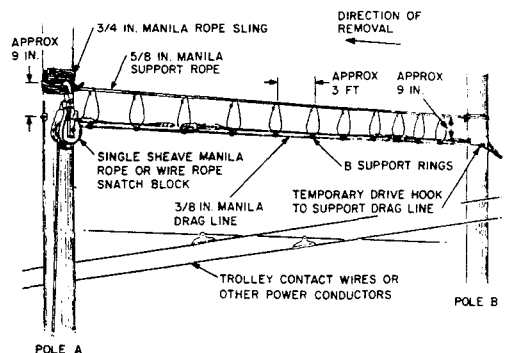
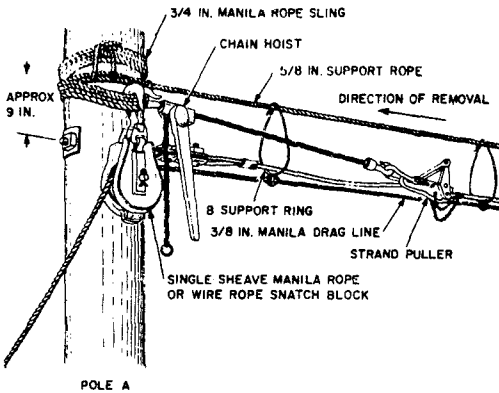

Fig. 1—Support Rope Assembly
Fig. 2—Releasing Tenrion on Guy
(1) Place single sheave manila or wire rope snatch block on Pole A with the top of the sheave just above the level of the guy. At Pole B place a drive hook at this same relative position (Fig. 1).
(2) Between Poles A and B place a 3/8-inch manila rope to be used as a ring rope and drag line. Place in snatch block and over drive hook. The length of this rope should be equal to twice the length of the crossing plus enough to reach the ground at Pole B.
(3) Use the 3/8-inch drag rope to pull in a 5/8-inch manila rope to be used as a support rope. Place the support rope approximately 9 inches above the guy and sufficiently taut so that it will not sag onto the power conductors when weight of guy, drag rope, and B Support Rings is added.
(4) Store excess of the 3/8-inch rope at Pole A. As a workman on the ground at Pole B pulls this drag rope across, a workman on Pole A will equip it with B Support Rings about 3 feet apart and encircling the guy and support rope.
(5) At Pole A, place strand puller and chain hoist. Pull up guy with hoist to release tension at dead end as illustrated in Fig. 2. Detach guy from pole and slack off with hoist until guy rests in B Support Rings. While doing this, **make certain the support rope is taut enough to maintain clearance between guy and power conductors.** Remove hoist and strand puller.